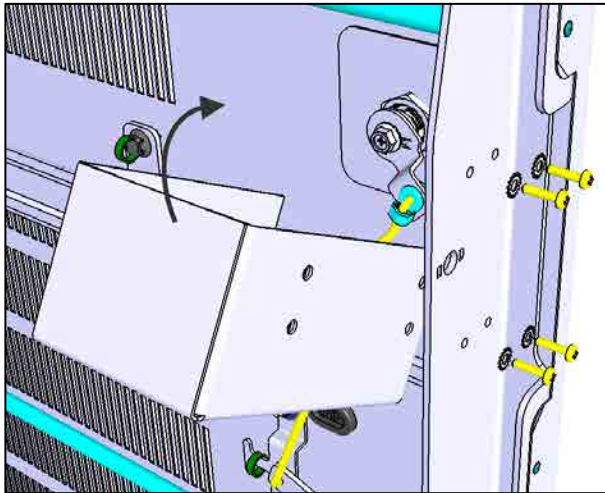

FIGURE 15
24. Re-install the box with hardware reserved previously. (Fig. 15 & 16)